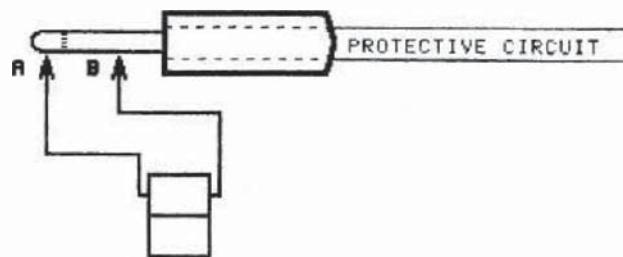

Figure 23-10
The tip of the plug is separated from the shaft by an insulative band. The tip is continuous with one of the terminals, the shaft is continuous with the other. Fig. 23-10 shows how to apply the probes of a meter to a plug for testing: One probe is applied to the tip (A), the other is applied to the shaft (B.) This is identical to applying the probes to screw terminals. The tip and shaft are continuous with the separate legs of wire.